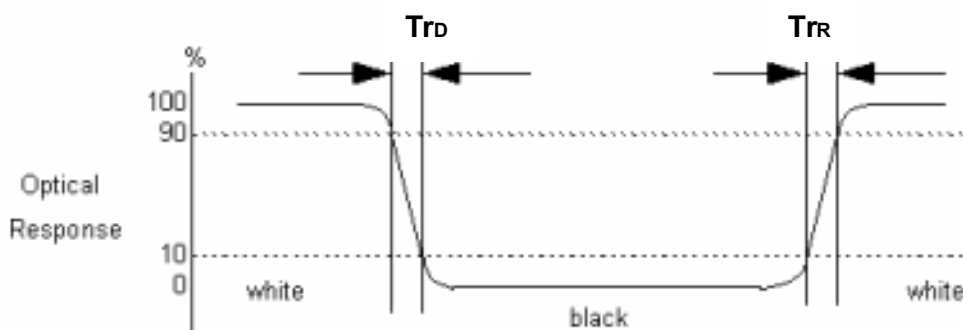

Fig.4-3 Response time
4. Response time is the time required for the display to transition from white(L255) to black(L0) (Decay Time,  $Tr_D = T_f$ ) and from black(L0) to white(L255) (Rise Time,  $Tr_R = T_r$ ). The response time interval is between the 10% and 90% of 1st frame amplitudes. For additional information see FIG 4-3.